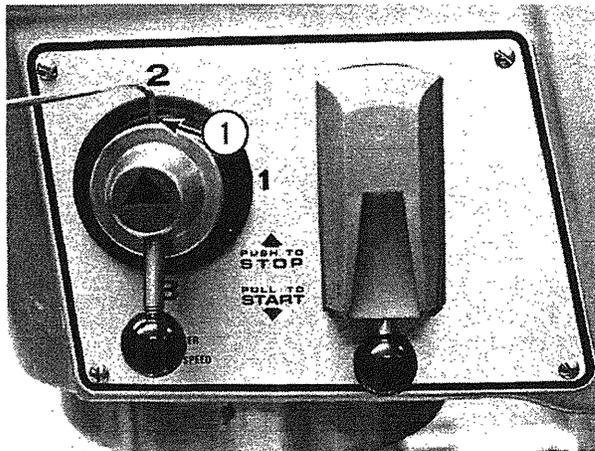

Fig. 3-8
- G. Position shifter handle in second gear. Loosen set screw (1, Fig. 3-8) and remove handle.